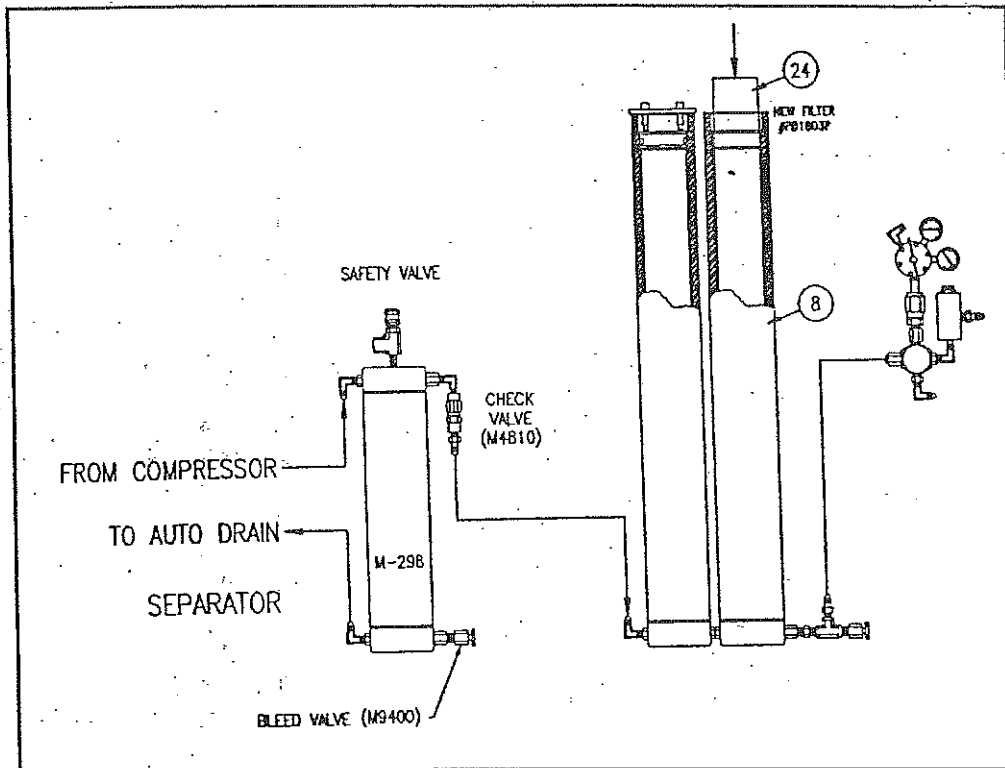

FIGURE 5-16 FINAL FILTER INSTALLATION
17. Turn on compressor for a brief period of time (8 seconds) to blow water out of the passage ways from the bottom plug (1) on the last purification chamber to the bleed valve (1).
19. Install a new filter (24), PD1803P, in final chamber (8) (see Figure 5-16). Observe the precautions discussed in Step 13.